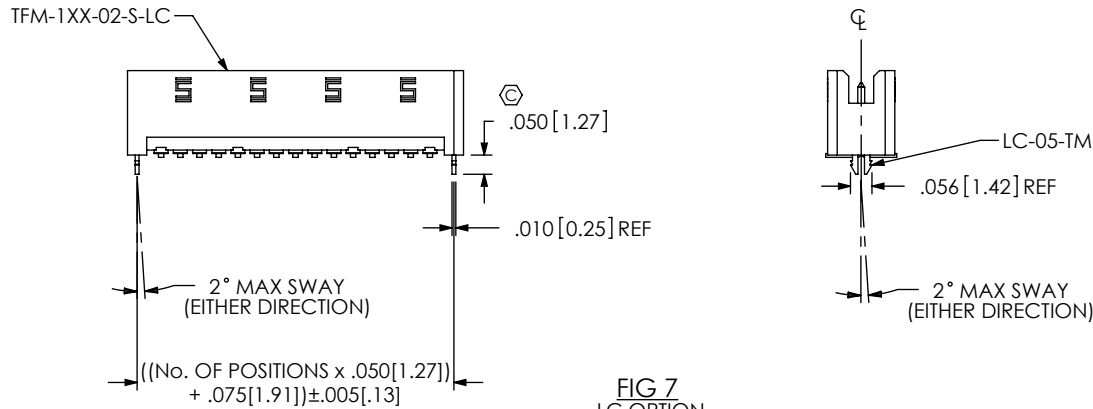

FIG 7
- LC: LOCKING CLIP (USE LC-05-TM) (NOT AVAILABLE WITH -WT OPTION) (SEE FIG 7, SHEET 3) (SEE NOTE 6)